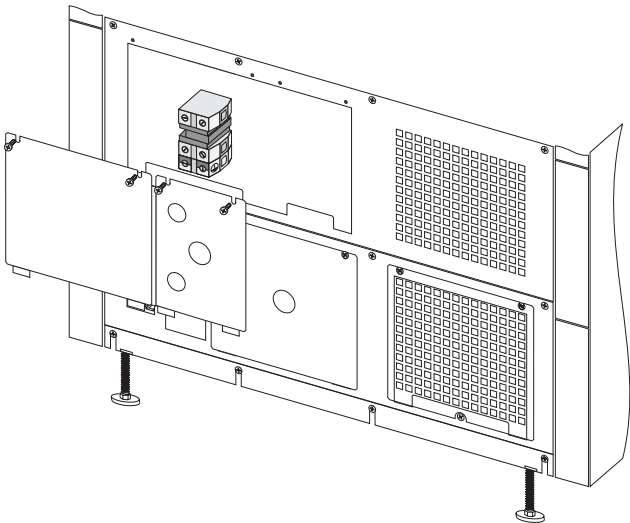

Fig. 4-6 Removal of Output Hardwiring Panels
1. Refer to Fig 4-6. Remove the four screws holding the output wiring entry panels to the rear of the Power Array. Remove only the screws indicated in the illustration. Set the screws and both panels aside temporarily.